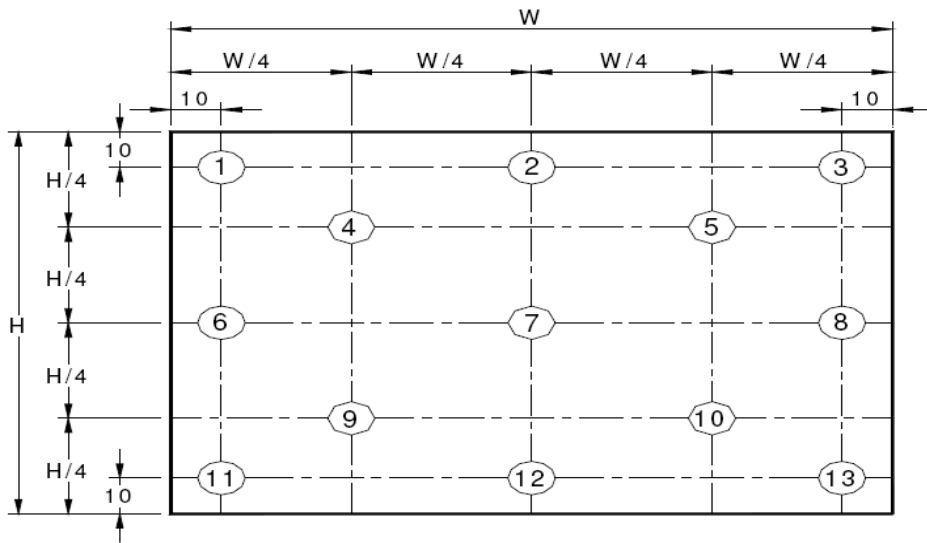

Figure 9. Uniformity Measurement Locations (13 points)
4. The White luminance uniformity on LCD surface is then expressed as :  $\Delta Y = \text{Minimum Luminance of 5(or 13) points} / \text{Maximum Luminance of 5(or 13) points.}$ (see Figure 8 and Figure 9).
The White luminance uniformity on LCD surface is then expressed as :  $\Delta Y5$  = Minimum Luminance of five points / Maximum Luminance of five points (see Figure 8) ,  $\Delta Y13$  = Minimum Luminance of 13 points /Maximum Luminance of 13 points (see Figure 9).